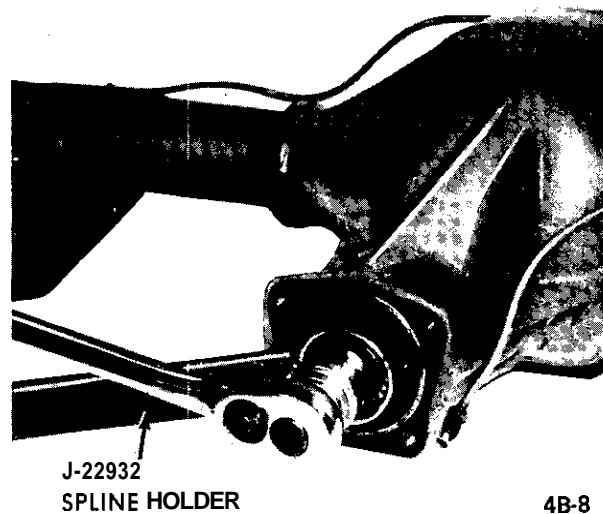

Figure 4B-8 Removing Pinion Preload Nut
2. Using Special Tool J-22932 hold barrel spline and remove pinion preload nut. See Figure 4B-8.